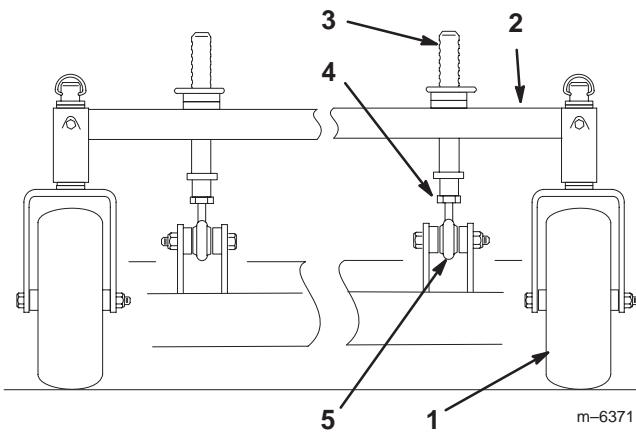

Figure 68
1. To change the front-to-rear pitch, the front height-of-cut posts can be adjusted (Fig. 68).
2. To raise the front of the deck, loosen jam nut and rotate the front pin clockwise (Fig. 68).
3. To lower the front of the deck, loosen jam nut and rotate the front pin counter clockwise (Fig. 68).